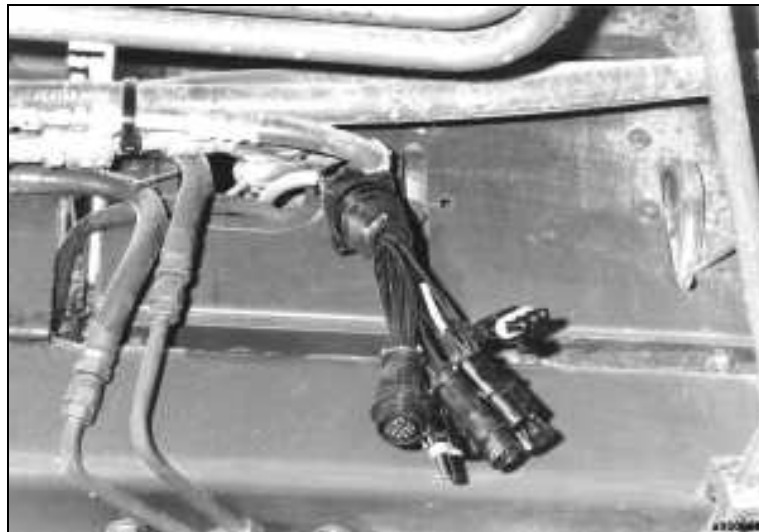

Figure 3. Distribution cable connected to cab cable behind cab
16. Install distribution cable onto cab cable by mating 24-pin plug to 24-pin receptacle. Figure 3 shows distribution cable at left-rear corner of cab.